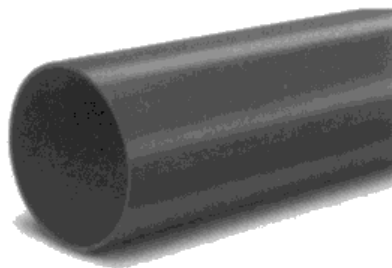

Figure 3
- 6 Figure 3 shows the end of a drain pipe manufactured from polyvinyl chloride (PVC) tubing.